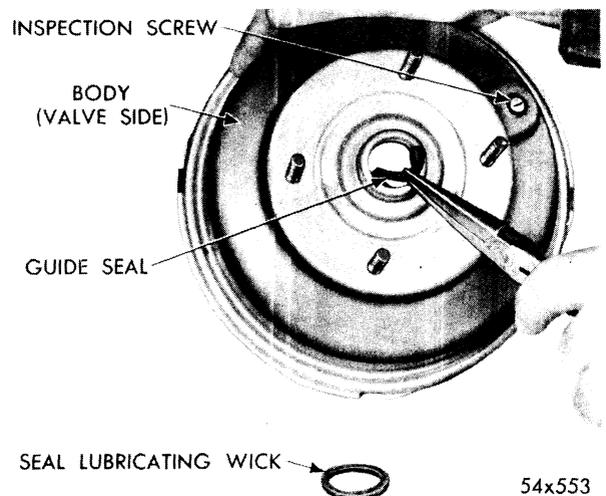

Fig. 76—Removing Guide Seal and Lubricating Wick
- (1) From hub of body assembly (valve side) remove and discard guide seal and seal lubricating wick, as shown in Figure 76. This can be done with small pointed pliers.